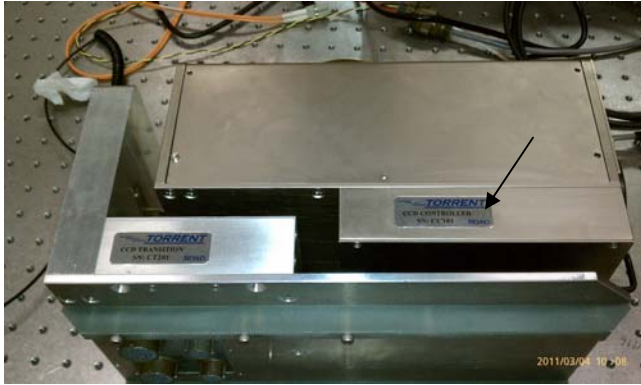

**Figure 1**
Pull all parts from Parts list on Page 2, Controller Base kit PN:TRNT-EL-02-0018, should consist of the item shown in Figure 1.
3. Remove Front Panel, refer to Figure 1. Note: Trim DB connector leads on flex cables to .075”-.095” if necessary. Attach flex cables from Flex Kit to the panel. Connector orientation should be narrow side down toward base plate, set aside until step 6.